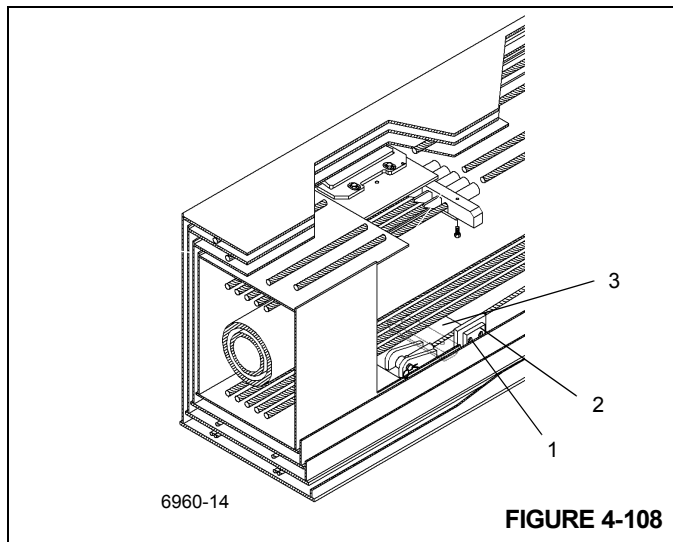

FIGURE 4-108
8. If necessary, remove the capscrews (1) securing each lower rear side wear pad (2) to the fly section (3) (Figure 4-108). Remove wear pads and shims. Note location of shims for installation.